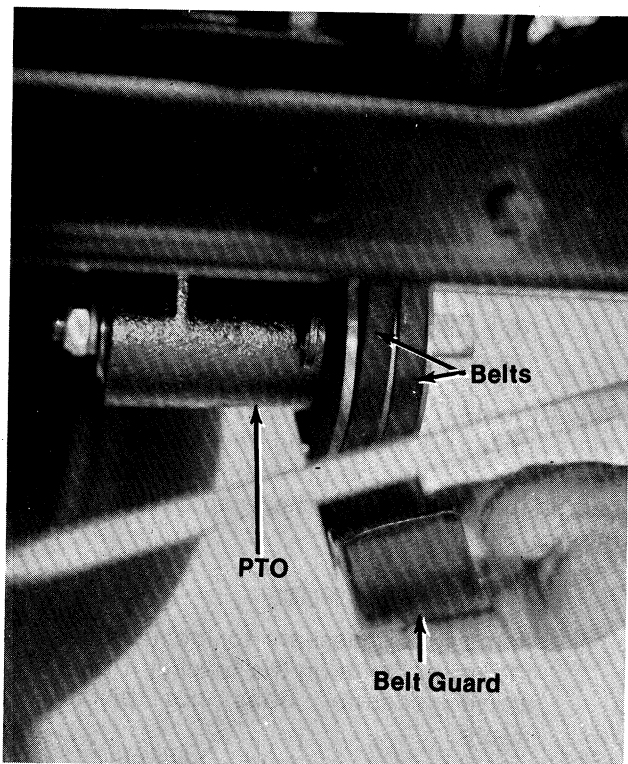

FIGURE 23.
2. Remove the lower belt guard. (See figure 23.)